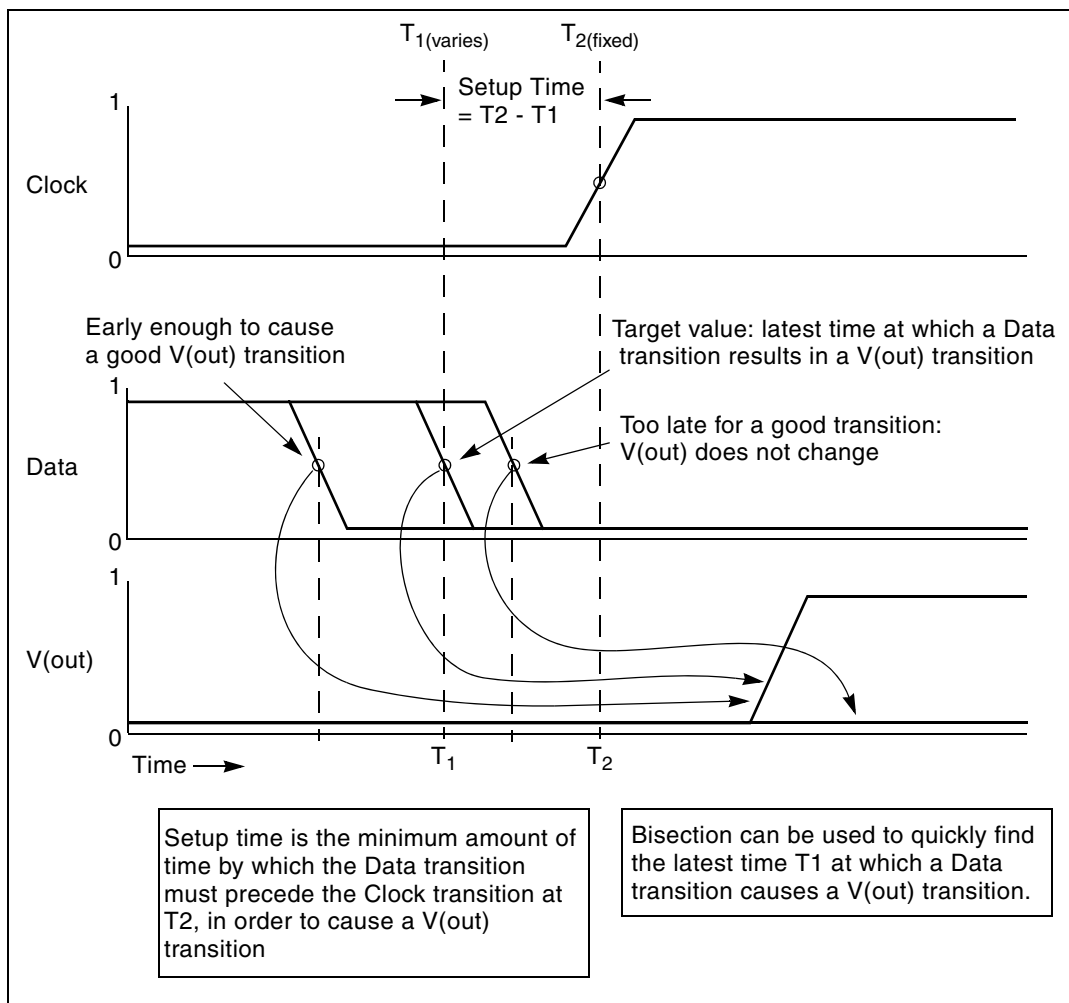

Figure 112 Determining Setup Time with Bisection Violation Analysis
Figure 112 on page 628 shows a typical analysis of setup-time constraints. Clock and data input waveforms drive a cell. Two input transitions (rise and fall) occur at times T_1 and T_2 . The result is an output transition, when $V(\text{out})$ changes from low to high. The following relationship between the T_1 (data) and T_2 (clock) times must be true for the $V(\text{out})$ transition to occur: $T_2 > (T_1 + \text{setup time})$.
- Automatically varying the input parameter (T_1 in Figure 112 on page 628) to find the value for which the transition barely occurs.
Figure 113 on page 635 shows an example of the binary search process that the bisection algorithm uses. This example is the pass/fail type, and is appropriate for a setup-time analysis that tests for the presence of an output transition. In the example depicted in Figure 112 on page 628 note that:
4. The bisection algorithm performs tests for each specified boundary value to determine the direction in which to pursue the target value, after the first bisection. In this example shown in Figure 112 on page 628, the upper boundary has a pass value and the lower boundary has a fail value.